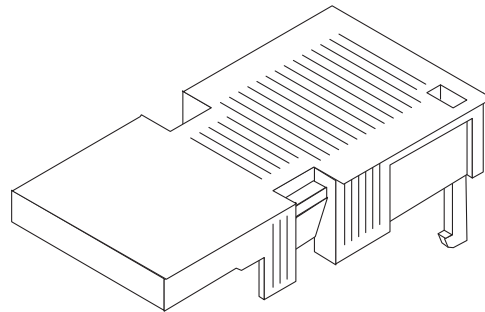

FIGURE 6-43 DC Connection Parts
1. Identify the parts that you will use to assemble the DC input power cable (FIGURE 6-43).